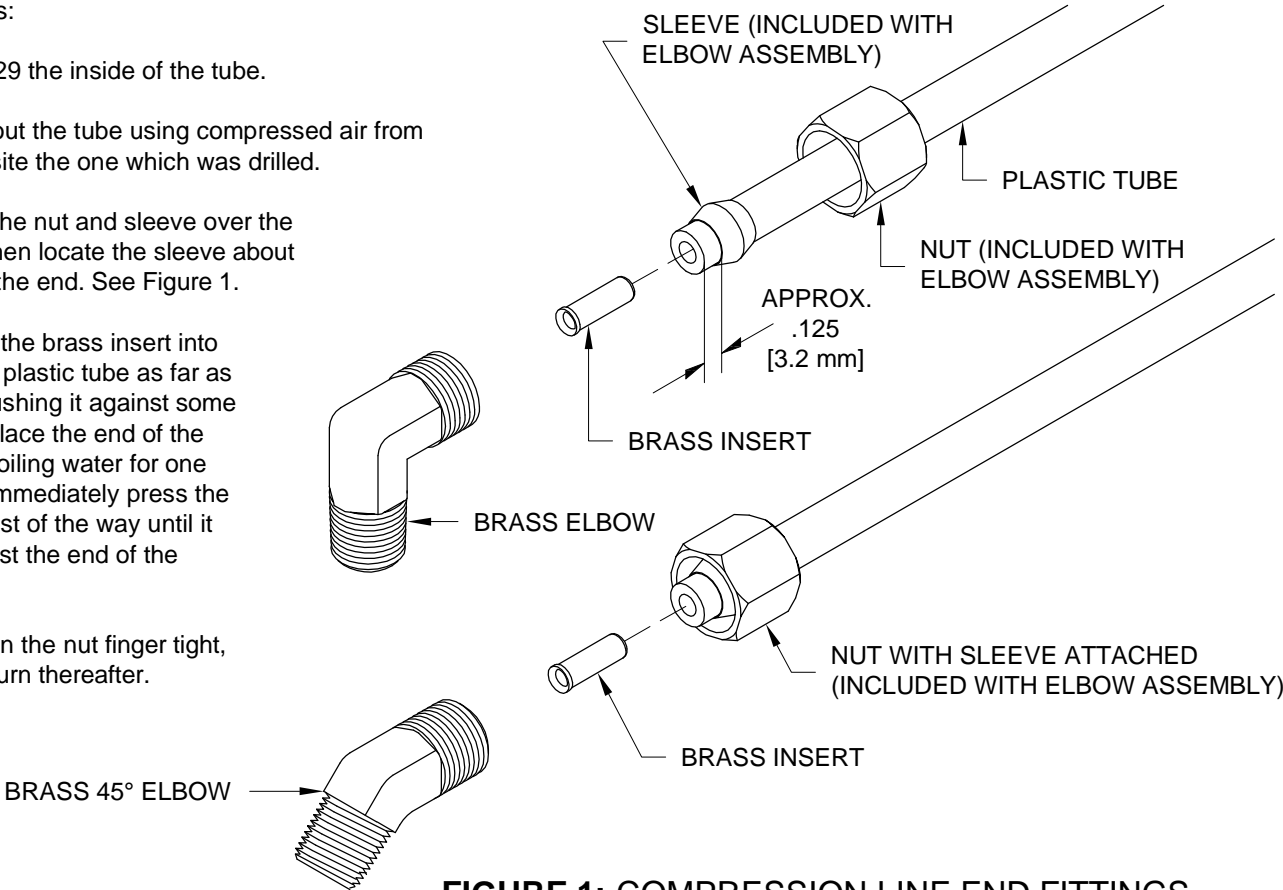

FIGURE 1: COMPRESSION LINE END FITTINGS
Step 3: Slide the nut and sleeve over the plastic tube, then locate the sleeve about 1/8 inch from the end. See Figure 1.